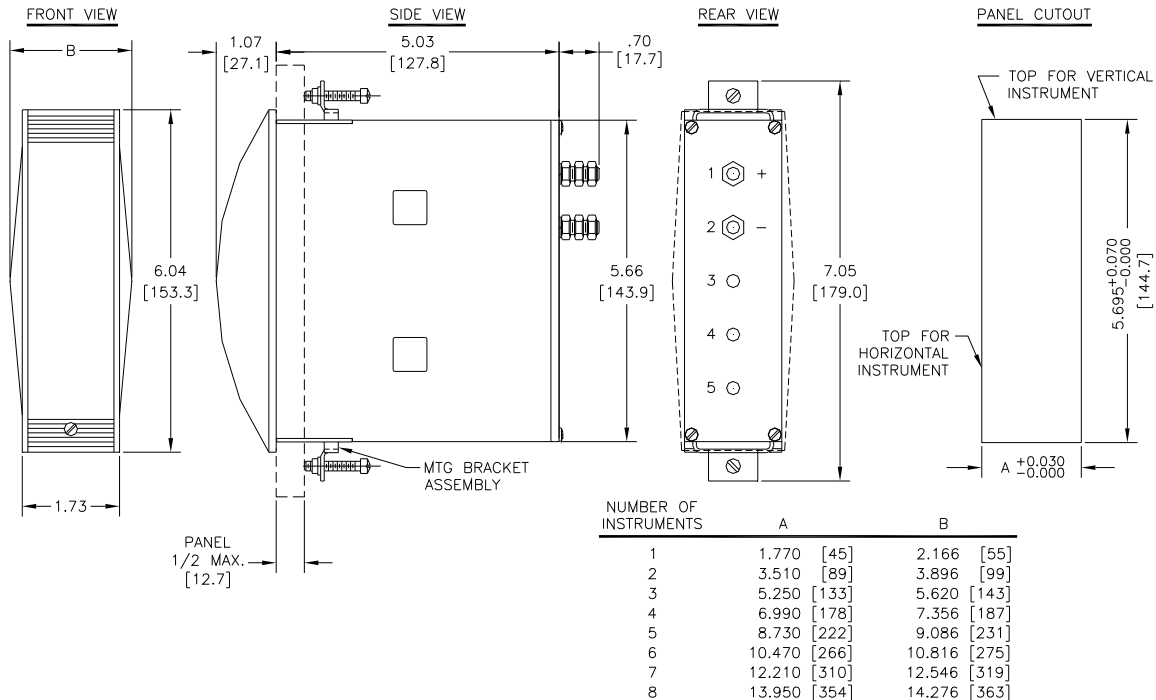

Figure 1: Dimensions for Type 252 Edgewise Instruments
- 7.2 Drill panels and mount instruments as shown in Figure 1.